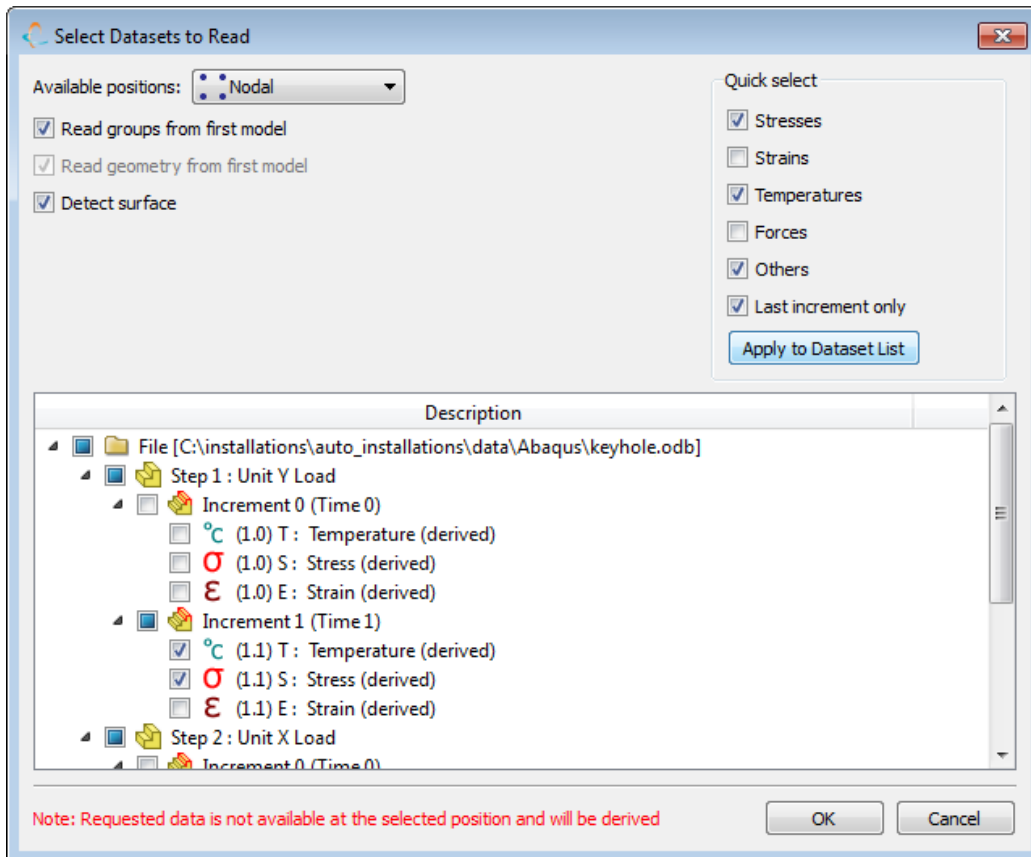

Figure 207.3-2
- These datasets are clearly suffixed in the pre-scan dialogue with the string: “(derived)” - see Figure 207.3-2.